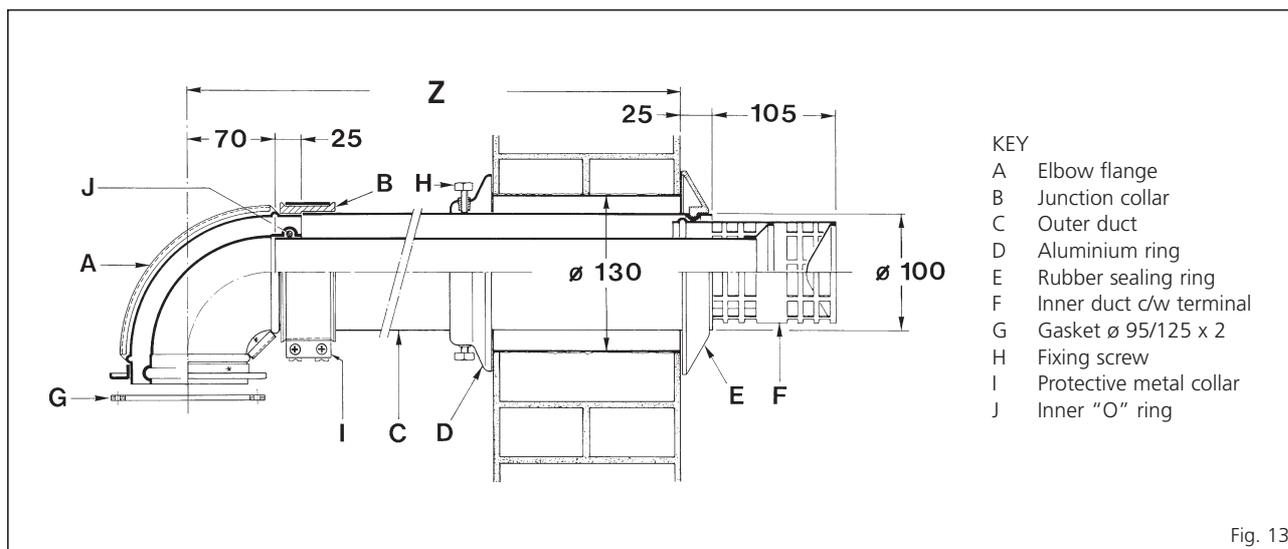

Fig. 13
- Cut the hole in the wall for the flue/air duct. The diameter should not be less than 100 mm (4 in) and must be horizontal. If the hole is not accessible from the outside of the building, its minimum diameter should be sufficient to allow the insertion of the wall liner (130 mm - 5 ¼ in) diameter) which will be sealed with mortar. Refer to fig. 13. (The wall liner is available as an optional extra.)
Wall thicknesses up to 0.5 m (19 in) only, Hole diameter sufficient to accept wall liner. 130 mm (5 ¼ in) if optional kit is used (fig. 13).
- Fit the rubber sealing ring into the swaged groove in the air duct as shown in fig. 13. Ensure that it is the correct way around and spray the outside surface with talcum powder or soap solution to reduce friction.
- Fit the rubber sealing ring into the swaged groove in the air duct as shown in fig. 13. Ensure that it is the correct way around.
- With reference to fig. 13, slide on the aluminium reten-